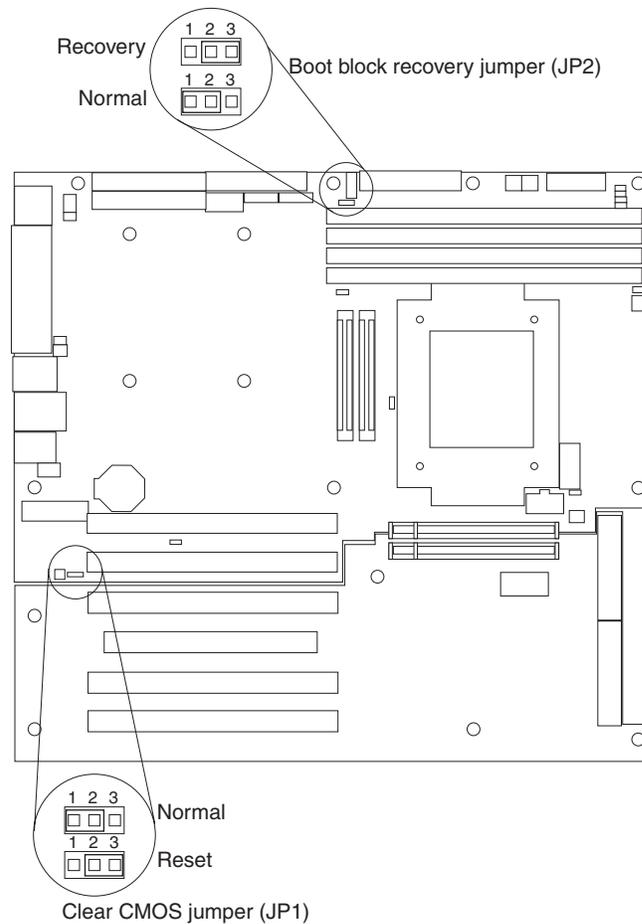

Figure 8. Location of recovery jumpers on system board
5. Locate the boot block recovery jumper (JP2) on the system board. Figure 8 shows the location of the boot block jumper on the system board.